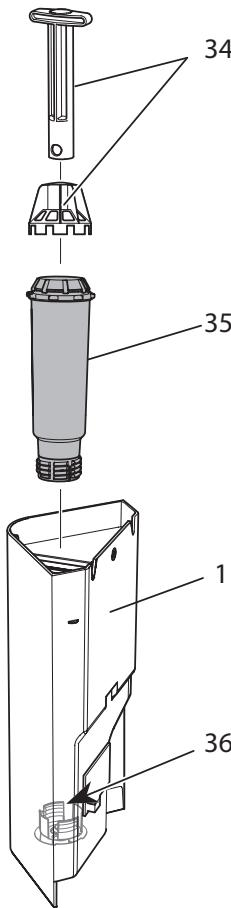

Fig. 19: Screwing/Unscrewing the water filter
7. Insert a new filter in the water tank (see Fig. 19).
2. Remove the water filter (see Fig. 19).